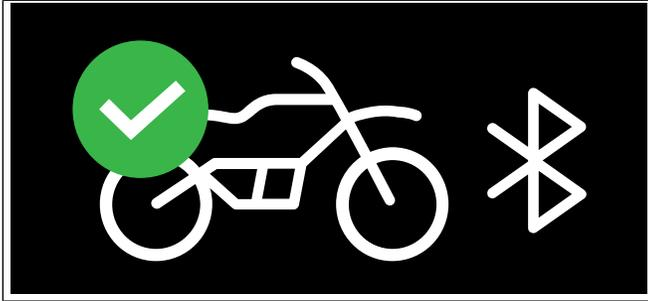

Figure 9. Good Connection
- See Figure 9. If BCI is communicating properly with the computer, the icon in the lower left corner of the screen will display a successful connection.